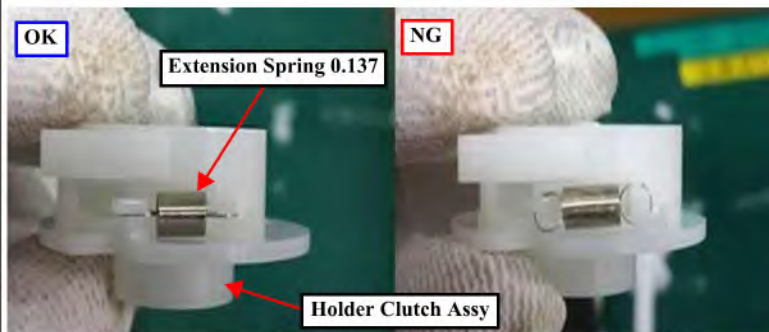

Figure 3-50. Spring of the Holder Clutch Assy
- Attach the Shaft LD Rear Assy with the spring on the Holder Clutch Assy facing to the bottom. (Figure 3-50)